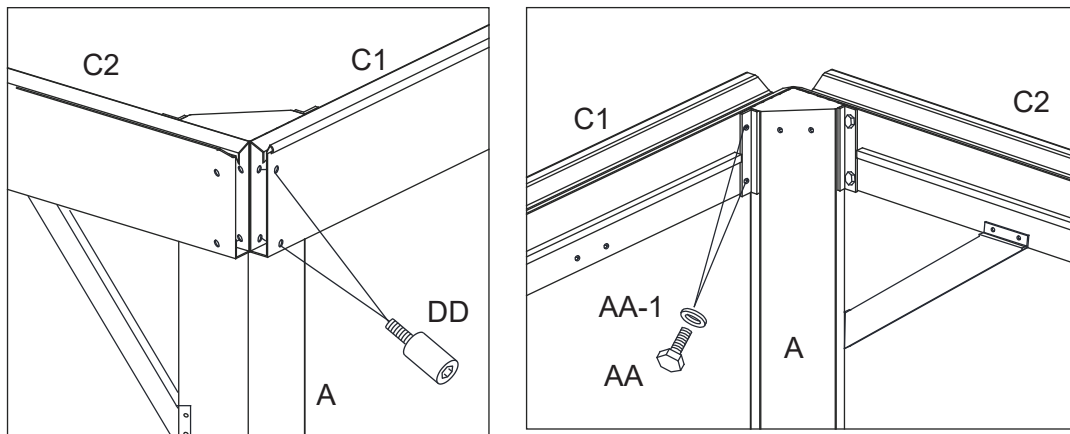
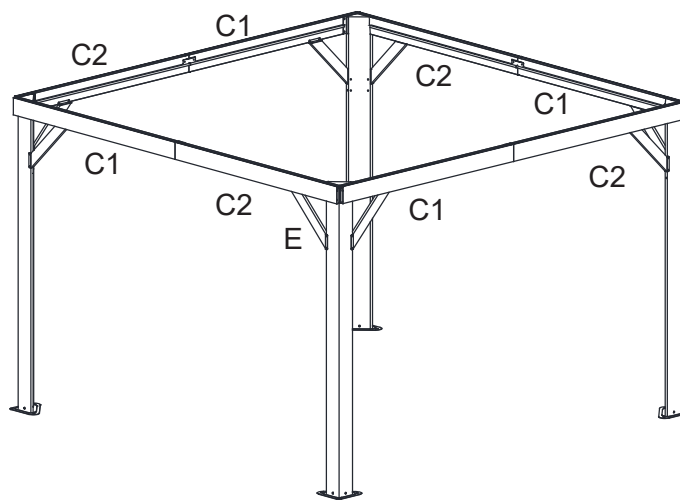

Figure 4-1
Figure 4-3
4.1. Attach Lintel (C1 and C2) to Corner Posts (A) first with Bolts (AA) and washer (AA-1) then with Bolts (DD). Tighten Bolts. Repeat for opposite side Lintels (C1 and C2). Tighten all Bolts. See Figure 4-1 and Figure 4-3.
4.3. Repeat for all Corner Posts and Lintels. Tighten All Bolts. See Figure 4-3.